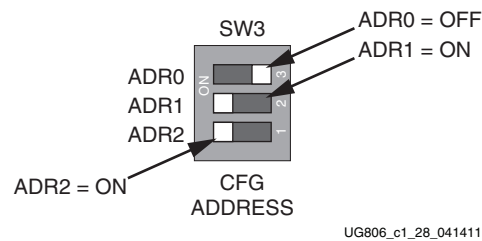

Figure 1-28: Configuration Address DIP Switch (SW3)
4. Select the GTX IBERT demonstration with the System Ace controller CFG ADDRESS switch, SW3. The setting on this 3-bit DIP switch (Figure 1-28) selects the file used to configure the FPGA. A switch is in the ON position if it switched towards the ON text printed on the DIP; otherwise, it is OFF. For the Quad 100 GTX IBERT demonstration, set: ADR2 = ON, ADR1 = ON, and ADR0 = OFF.